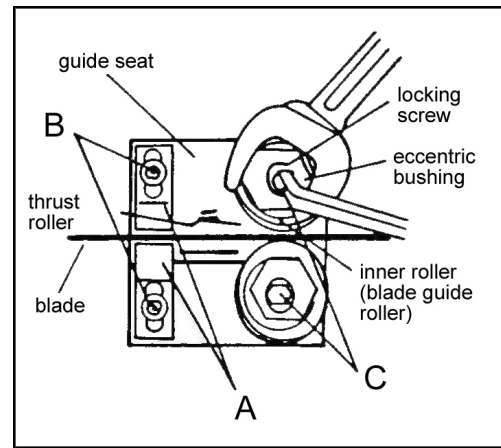

Fig. 10
2. Loosen blade guides (A – Fig.10) by loosening screws (B). Slide blade guides away from blade.
3. Loosen locking screws (C) by using a hex wrench.
5. Tighten locking screws (C).
6. Slide blade guides back into contact with blade and tighten screws (B).